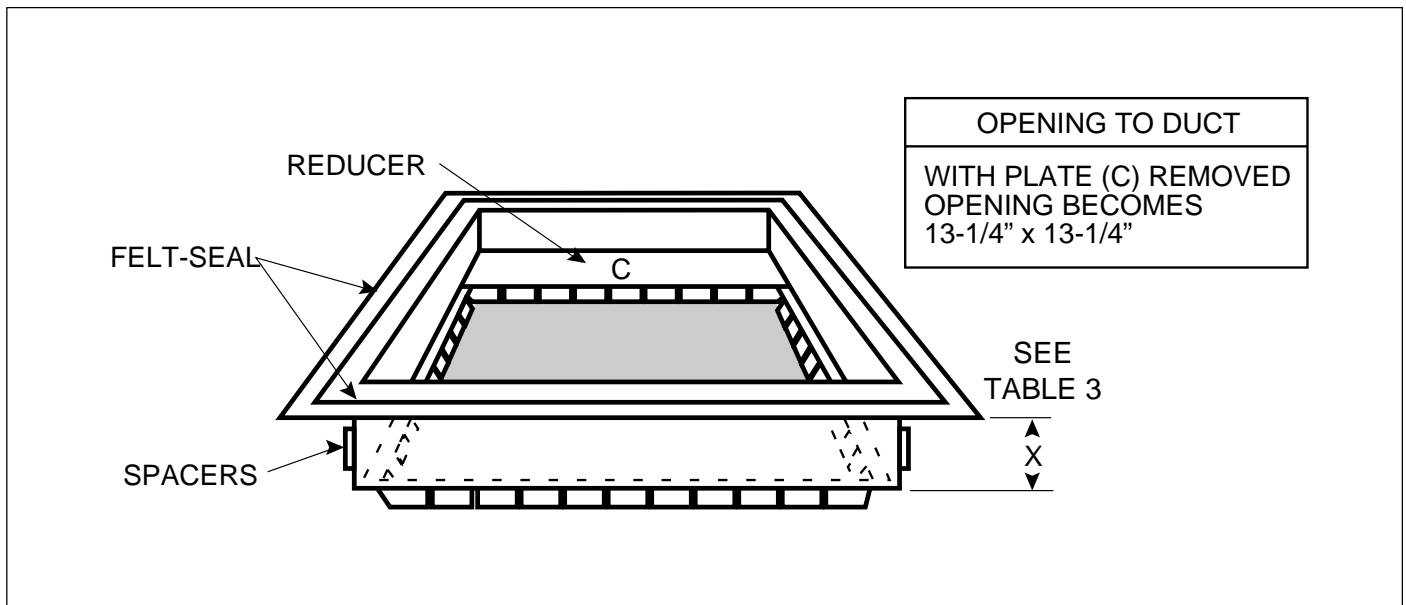

Figure 6. Duct Connector
- Select appropriate model from Table 3 which matches X-dimension of the floor cavity. To maximize air delivery, remove reducer "C" (see Figure 6) to obtain the largest open area that will fit the duct/floor construction.